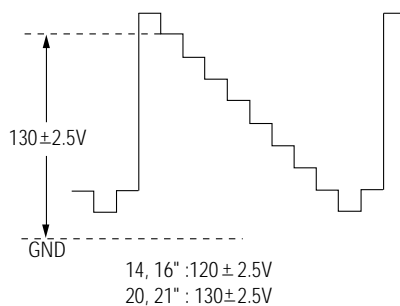

Fig. 4-1
4. Adjust the Screen VR (on the FBT) so that the voltage on the oscilloscope becomes $130 \pm 2.5V$ (See Fig. 4-1).